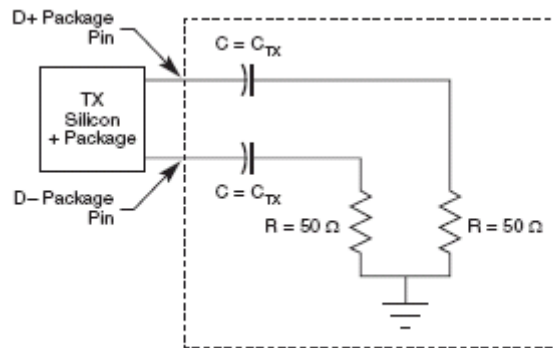

Figure 51. Compliance test/measurement load
1. Specified at the measurement point into a timing and voltage compliance test load as shown in Figure 51 and measured over any 250 consecutive TX UIs.
- Specified at the measurement point into a timing and voltage compliance test load as shown in Figure 51 and measured over any 250 consecutive TX UIs.
1. Specified at the measurement point and measured over any 250 consecutive UIs. The test load in Figure 51 must be used as the RX device when taking measurements. If the clocks to the RX and TX are not derived from the same reference clock, the TX UI recovered from 3500 consecutive UI must be used as a reference for the eye diagram.
2. Specified at the measurement point and measured over any 250 consecutive UIs. The test load in Figure 51 must be used as the RX device when taking measurements. If the clocks to the RX and TX are not derived from the same reference clock, the TX UI recovered from 3500 consecutive UI must be used as a reference for the eye diagram.
The AC timing and voltage parameters must be verified at the measurement point, as specified within 0.2 inches of the package pins, into a test/measurement load shown in Figure 51.